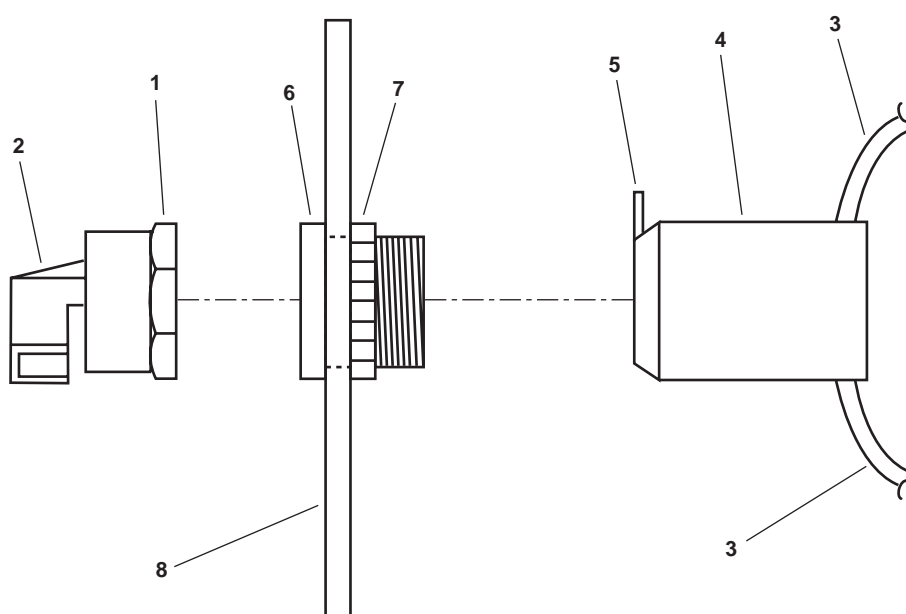

Figure 3. Rotary Switch
2. Unscrew the retaining ring (figure 3, item 1) and pull off the knob (figure 3, item 2).
3. Label and disconnect the wiring (figure 3, item 3) from the contactor (figure 3, item 4).
4. Lift the locking tab (figure 3, item 5) slightly and disconnect the contactor (figure 3, item 4) from the actuator (figure 3, item 6).
5. Remove the retaining nut (figure 3, item 7) and remove the actuator (figure 3, item 6) from the door (figure 3, item 8).
1. Install the actuator (figure 3, item 6) in the door (figure 3, item 8) and secure it with the retaining nut (figure 3, item 7).
2. Snap the contactor (figure 3, item 4) into place on the actuator (figure 3, item 6) with the locking tab (figure 3, item 5) facing upward.
3. Connect the wiring (figure 3, item 3) to the contactor (figure 3, item 4) using the labels from step 3 in Removal as a guide. Remove the labels.
4. Install the knob (figure 3, item 2) on the actuator (figure 3, item 6) and secure it with the retaining ring (figure 3, item 1).